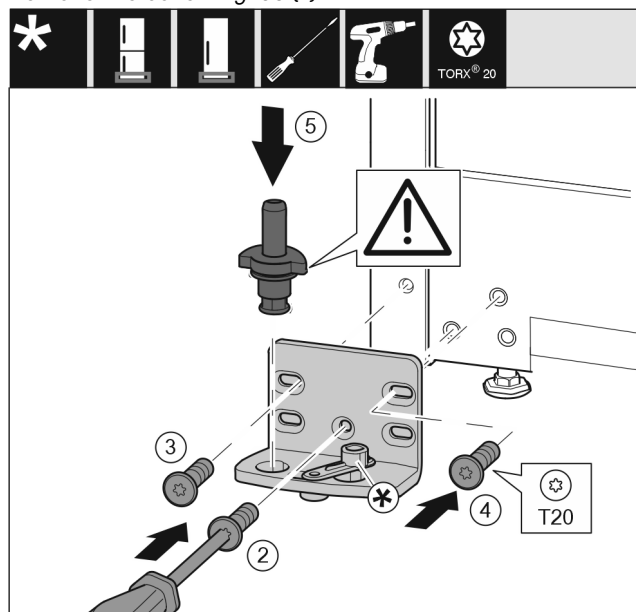

Fig. 36
- ▶ Place the bearing bracket on the other side and screw it on with a T20 screwdriver. Start with screw 2 at the bottom in the middle. Fig. 36 (2)
- ▶ Screw in screws 3 and 4 tightly. Fig. 36 (3,4)
- ▶ Insert the bearing pin completely. Make sure that the latching lug is pointing to the rear. Fig. 36 (5)
- ▶ Place the bearing bracket on the other side and screw it on with a T20 screwdriver. Start with screw 2 at the bottom in the middle. (2)
- ▶ Rotate the soft stop connection 180°. Screw it in with a T20 screwdriver on the other side of the bearing bracket. (5)
- ▶ Insert the bearing pin completely. Make sure that the latching lug is pointing to the rear. (6)